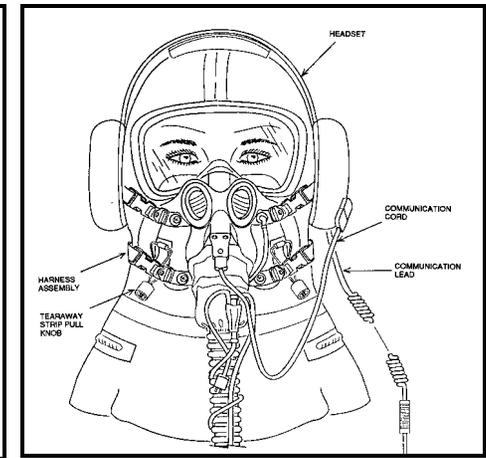

Figure 2
**Step 8b. Non-Helmet Version:** Refer to Figure 2.